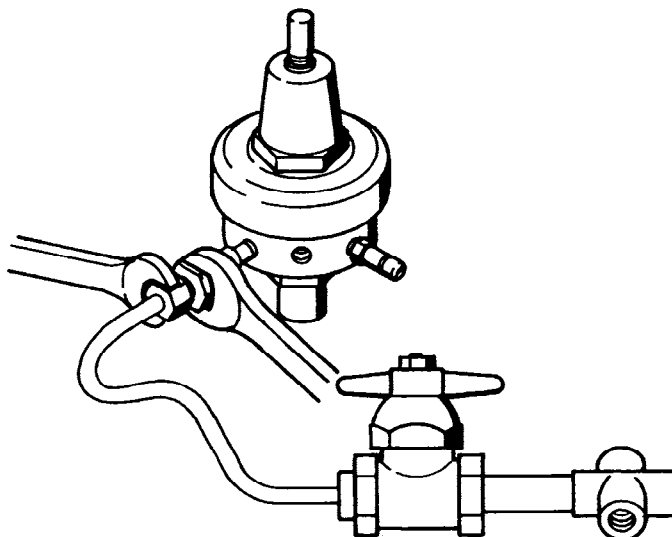

Figure 3-8
5. While holding the regulator with a wrench, use a second wrench to turn the regulator inlet nut counterclockwise and remove the regulator. See Figure 3-8.